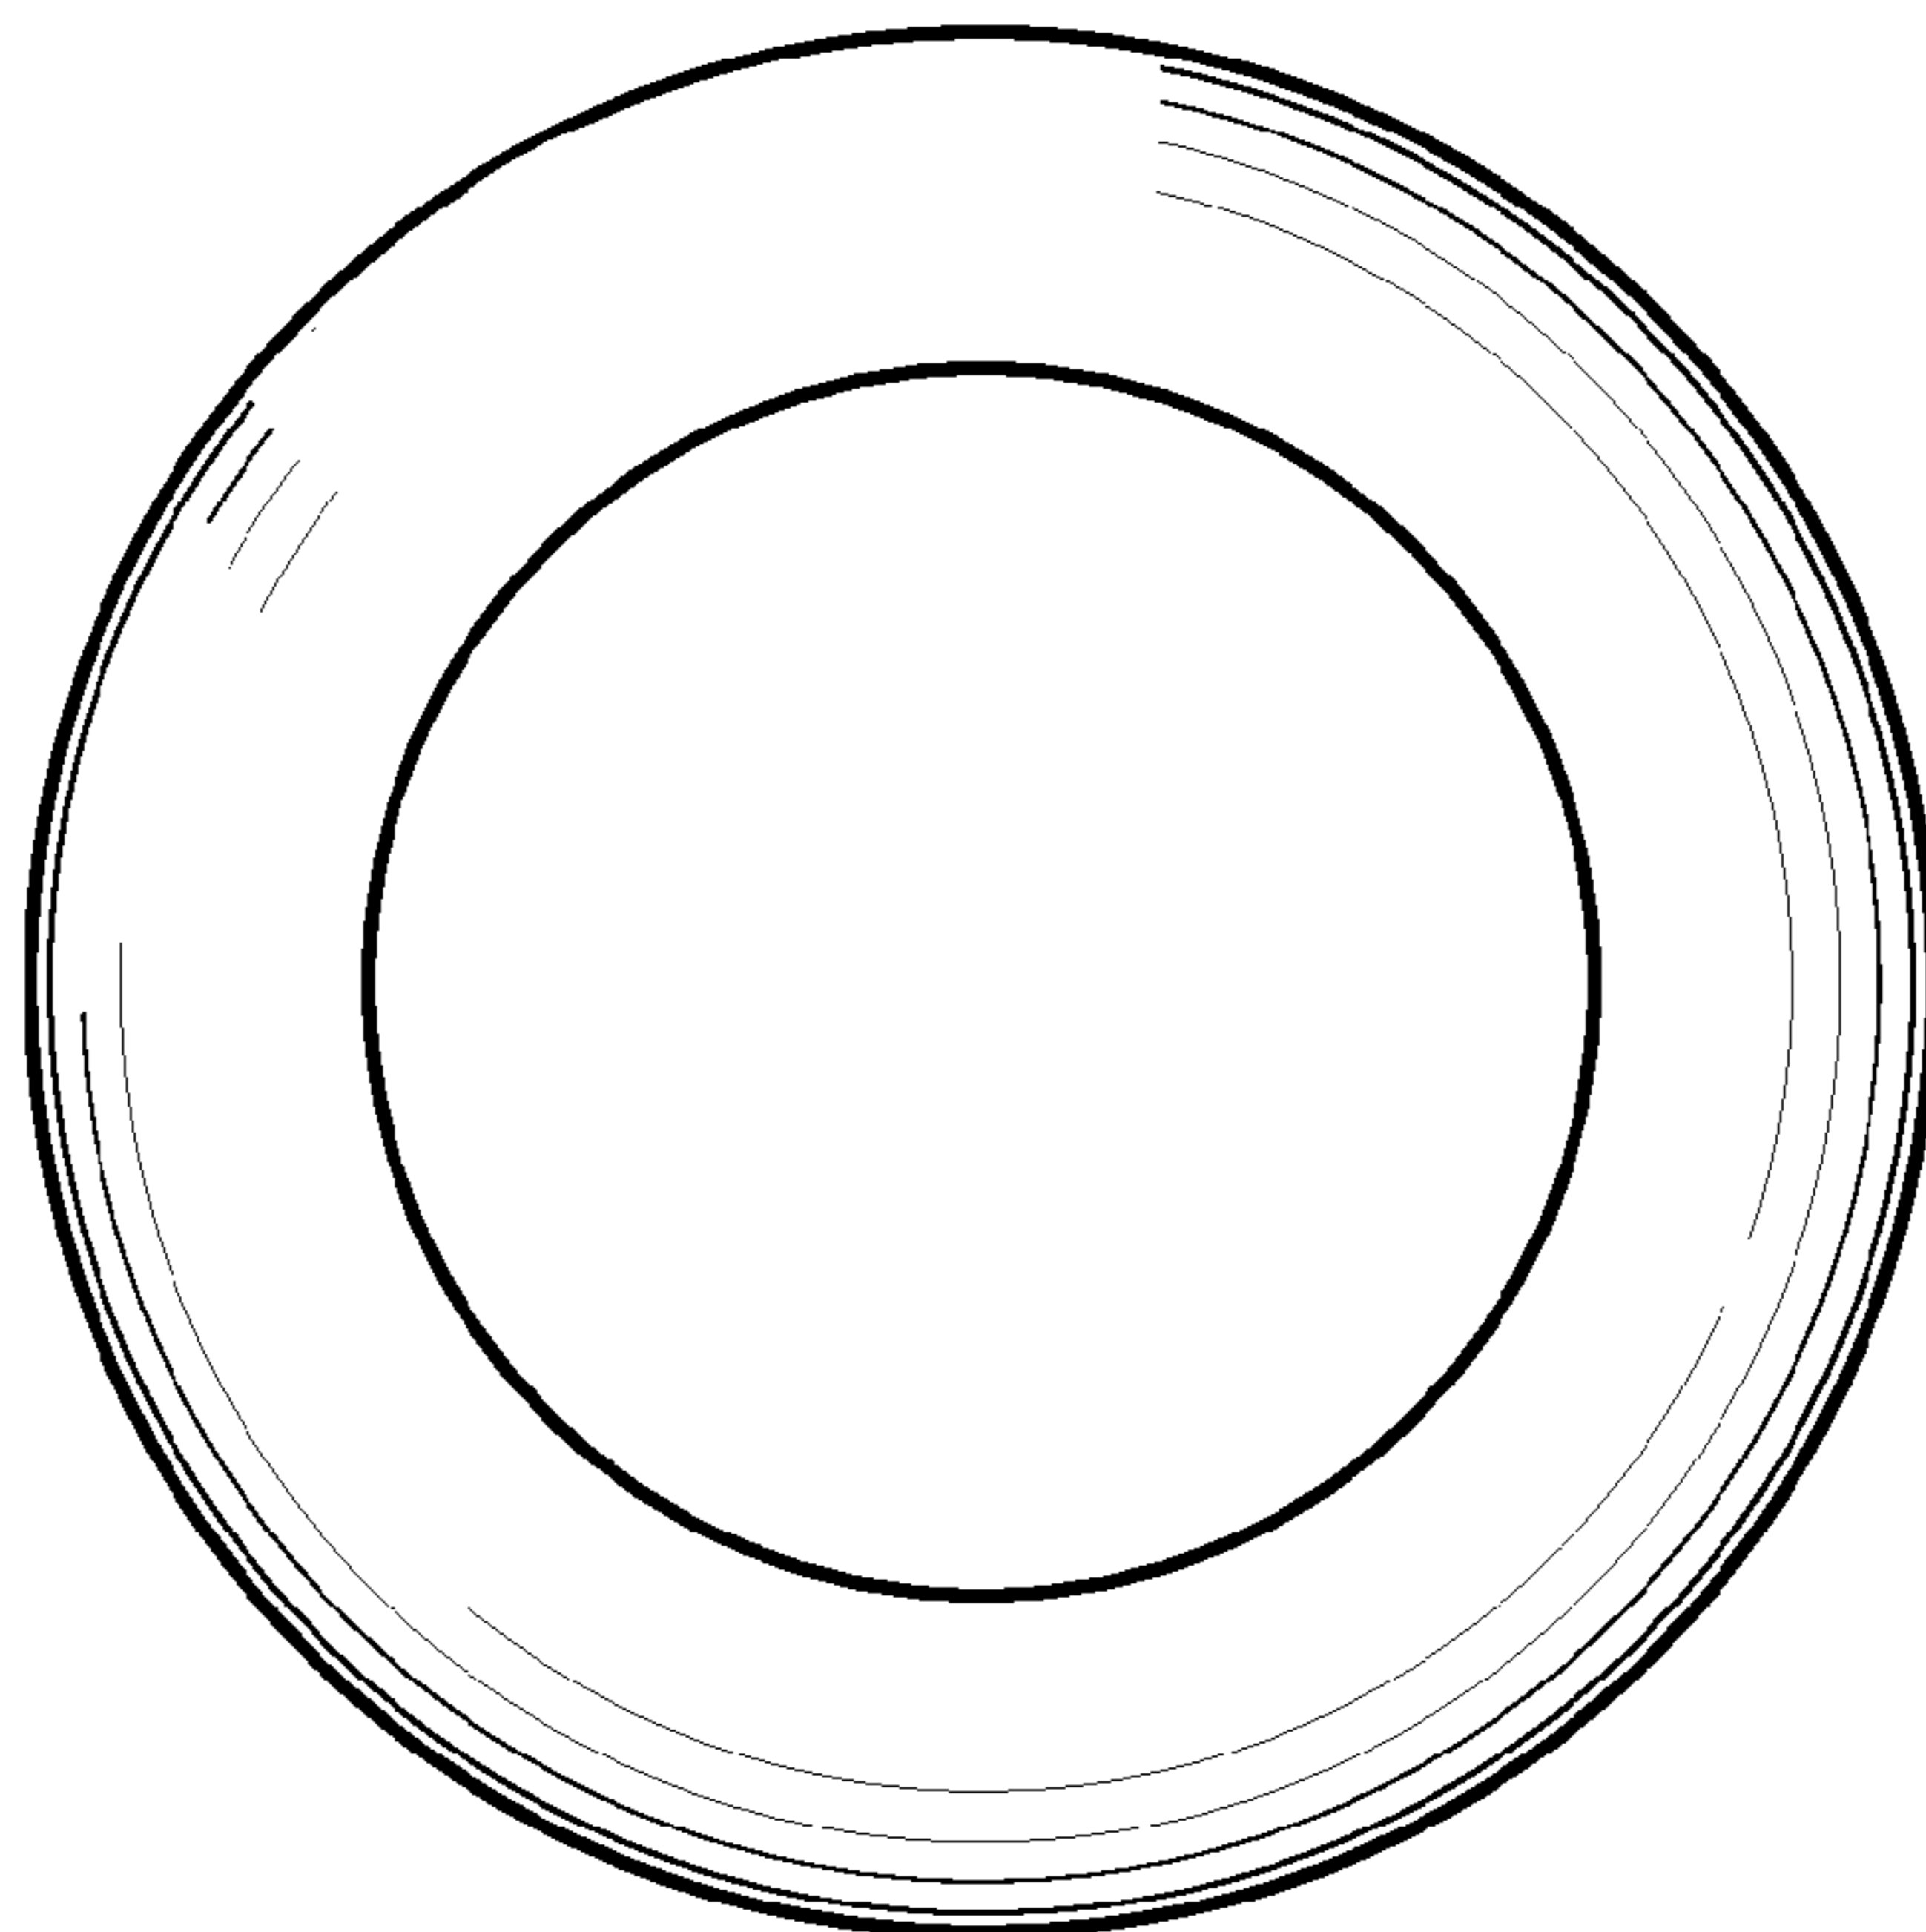

FIG. 13
- FIG. 13 is a front view of the trim;